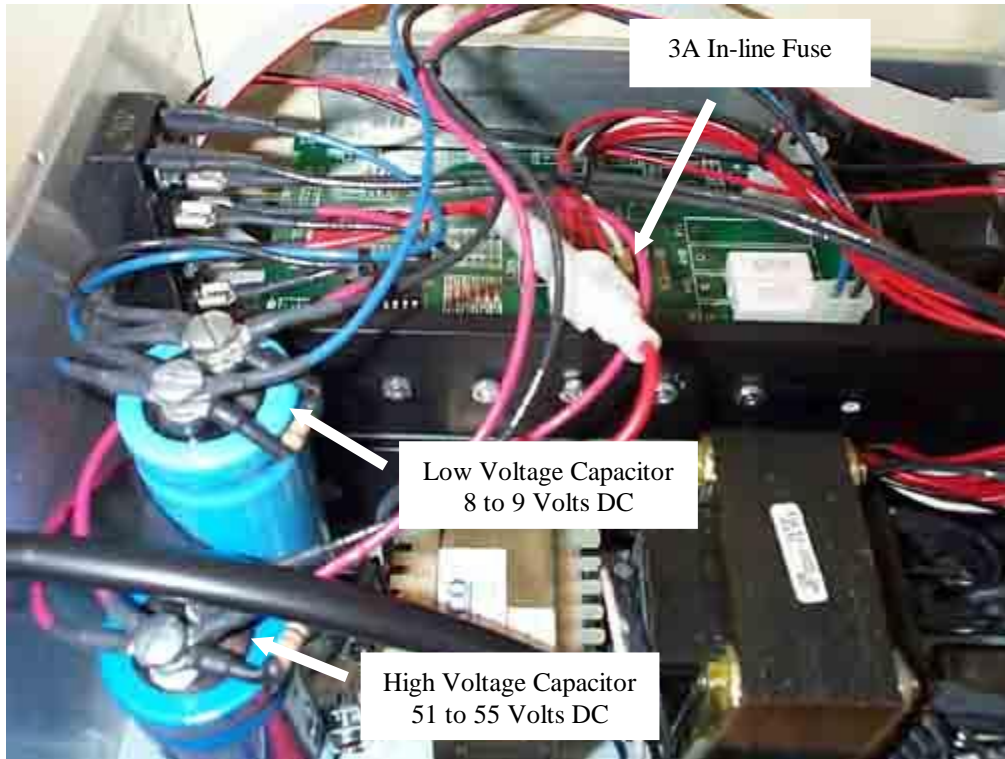

Fig. 23 - Checking Voltages inside the Electronic Driver Box. Shown are the range of voltages that will be present for a normally operating system.
**CHECK:** Open up drive unit and check the 3 Amp in-line fuse (Fig. 23 below) first. If the fuse is good, measure the voltage across the shorter capacitor with **RED** wires (Fig. 23) to see if there is approx. 55 Vdc. If not the in-line fuse may not be making a good connection - correct if necessary.